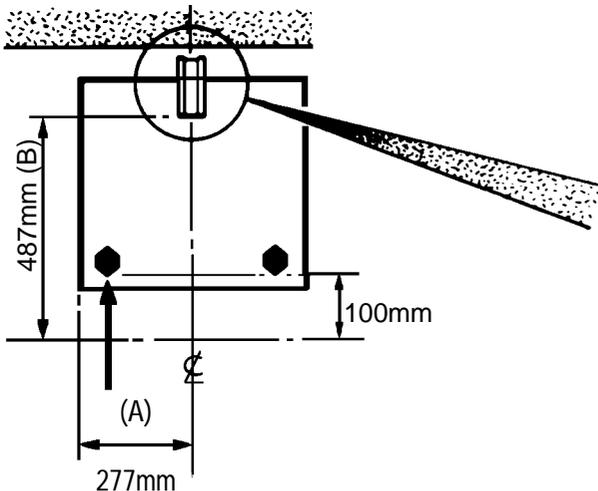
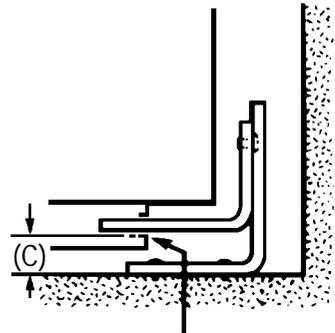

Fig.2a
Fig 2b
2. Mark off 277mm from the left hand side of the appliance as shown in dimension 'A', Fig.2a. This is the centre line of the fixing bracket.
3. Draw a line 100mm from the front edge of the levelling feet (see Fig.2a) and remove appliance from its position. Mark off dimension 'B' (see Fig.2a) back from this line on the centre line of the bracket to locate the front edge of the lower bracket. Fix lower bracket (with two fixing holes) to the floor then measure the height from floor level to engagement edge on back of appliance, dimension 'C' of Fig.2b.
4. Assemble upper bracket to lower bracket so that underside of bracket is dimension 'C' +3mm above floor level. (see Fig.2b).
Reposition appliance and check that top bracket engages into appliance back as shown in Fig.2b.